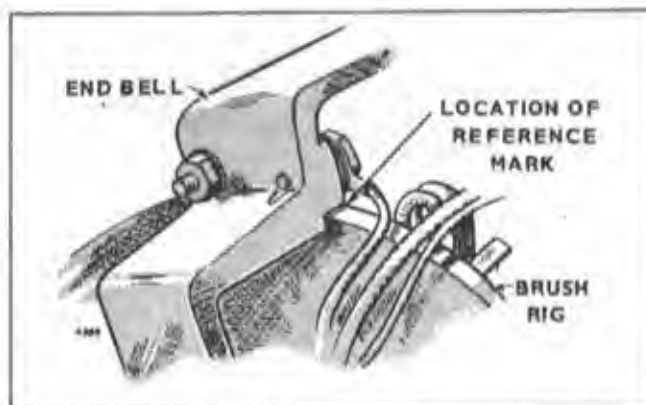

Figure 48. Brush Rig Alignment
8. Rotate the rig in one direction until the voltmeter reading starts to decrease. Mark this point. See Fig. 48.